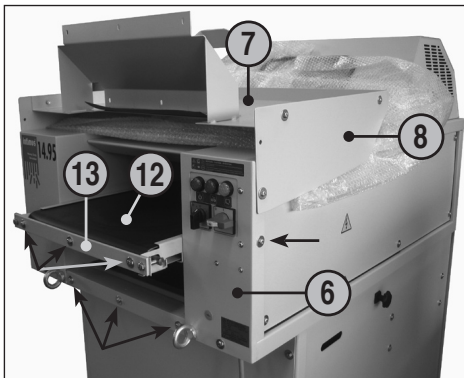

fig. 1
- 6 = Housing (fig. 1, 2, 4)
- 7 = Table (fig. 1, 2, 4, 5, 6)
- 8 = Guard panel (fig. 1, 2, 4)
- 12 = Conveyor belt (fig. 1, 2)
- 13 = Conveyor belt retainer (fig. 1)
POSITIONING OF THE TABLE (7) (figs. 1, 2 and 3):
1. Unscrew each of the 3 screws with washers on the front wall of the housing (6) and on the front of the conveyor belt attachment (13) as well as the one screw on both sides under the protective plate (8) (see arrow markings Fig. 1).